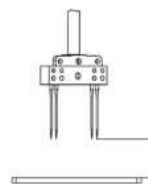

图13 (Fig. 13)
1. 当针杆上升至最高点时, 调整针尖与针板面的距离为  $10 \pm 0.5\text{mm}$ 。(图13)
1. Needle tip should be  $10 \pm 0.5\text{mm}$  height from Needle plate when Needle Bar mores to its top position. (Fig.13)